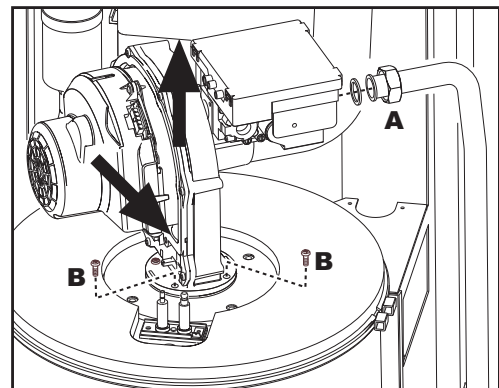
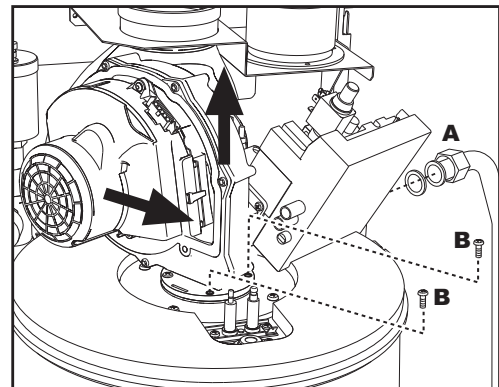

fig. 54 - model ENERGY TOP B 80 - 160
fig. 55 - model ENERGY TOP B 125 - 250
4. Loosen the **gas valve** (fig. 54 e fig. 55) fixing ring "A".
5. Undo the two fixing screws "B" and remove the fan assembly as indicated in fig. 54 for the model **ENERGY TOP B 80 - 160** and in for fig. 55 the model **ENERGY TOP B 125 - 250**.